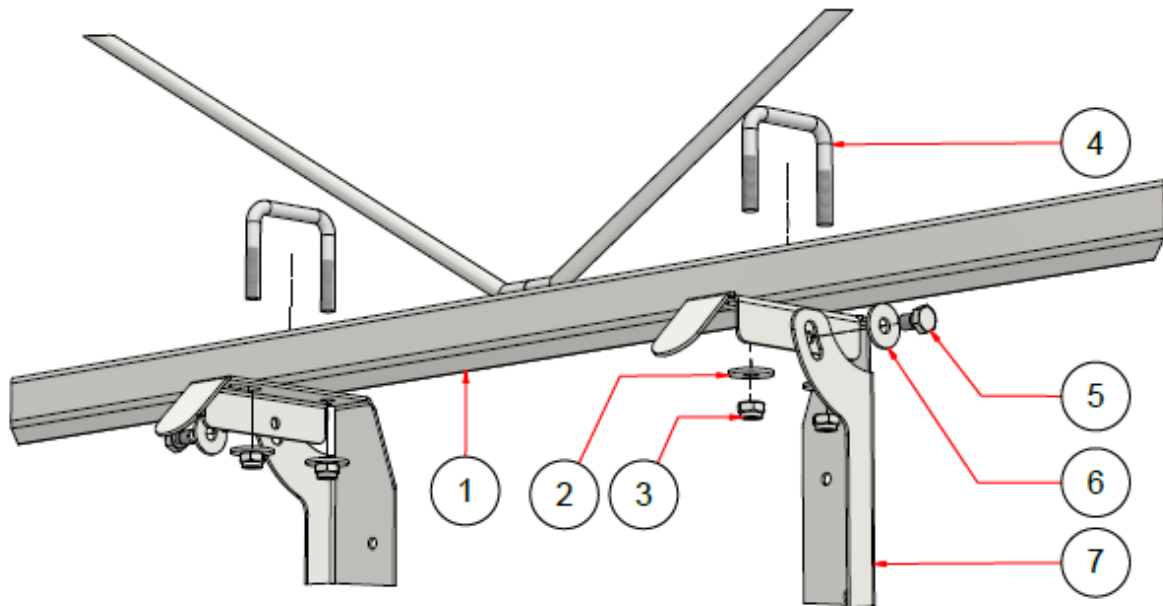

Figure 2 Mounting of bracket on lattice shelf
- Attach the two mounting brackets (7) to the lattice shelf (1);
- Use two M8 rivet (4), four M8 standard washers or fender washers (2) and four M8 self-locking nuts (3);
- See Figure 2;
The numbering in Figure 2 is used for the instructions for adjusting the mounting brackets.